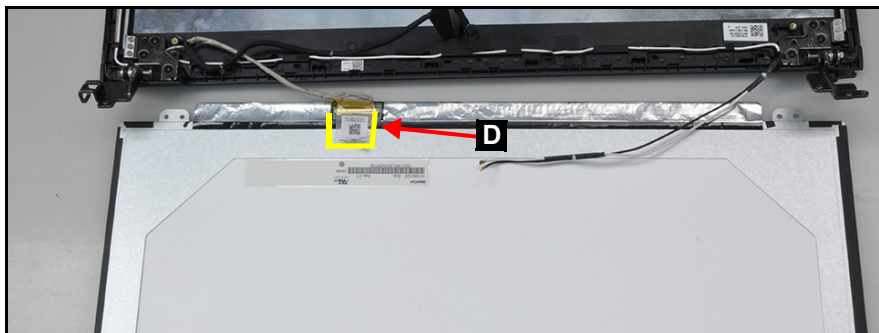

Figure 3-59. eDP Mylar Tape
3. Carefully turn the LCD panel over so that the display panel is face down on a flat surface (Figure 3-59).
4. Peel back the clear mylar tape (D) securing the eDP cable to the LCD panel (Figure 3-59).